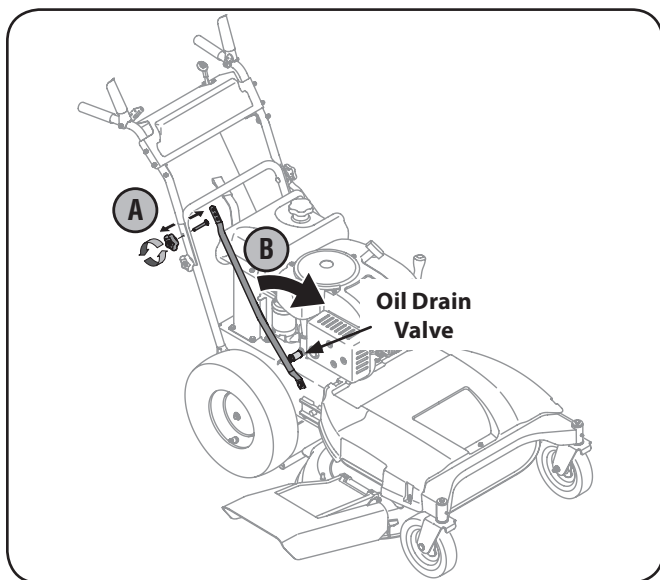

Figure 6-1
2. Remove the upper star knob and carriage screw on the right side of the handle. See Figure 6-1.
3. Pivot the support tube forward to allow room to connect the oil drain hose to the oil drain valve. See Figure 6-1.